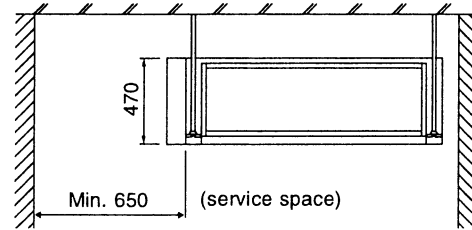

Fig. 1
- (1) Select an installation site where the following conditions are fulfilled and that meets with your customer's approval.
- Where sufficient clearance for maintenance and service can be ensured. (Refer to Fig. 1)
- (2) Check whether the place is strong enough to bear the weight of the unit or not. If there is a risk, reinforce the place before installing the unit.